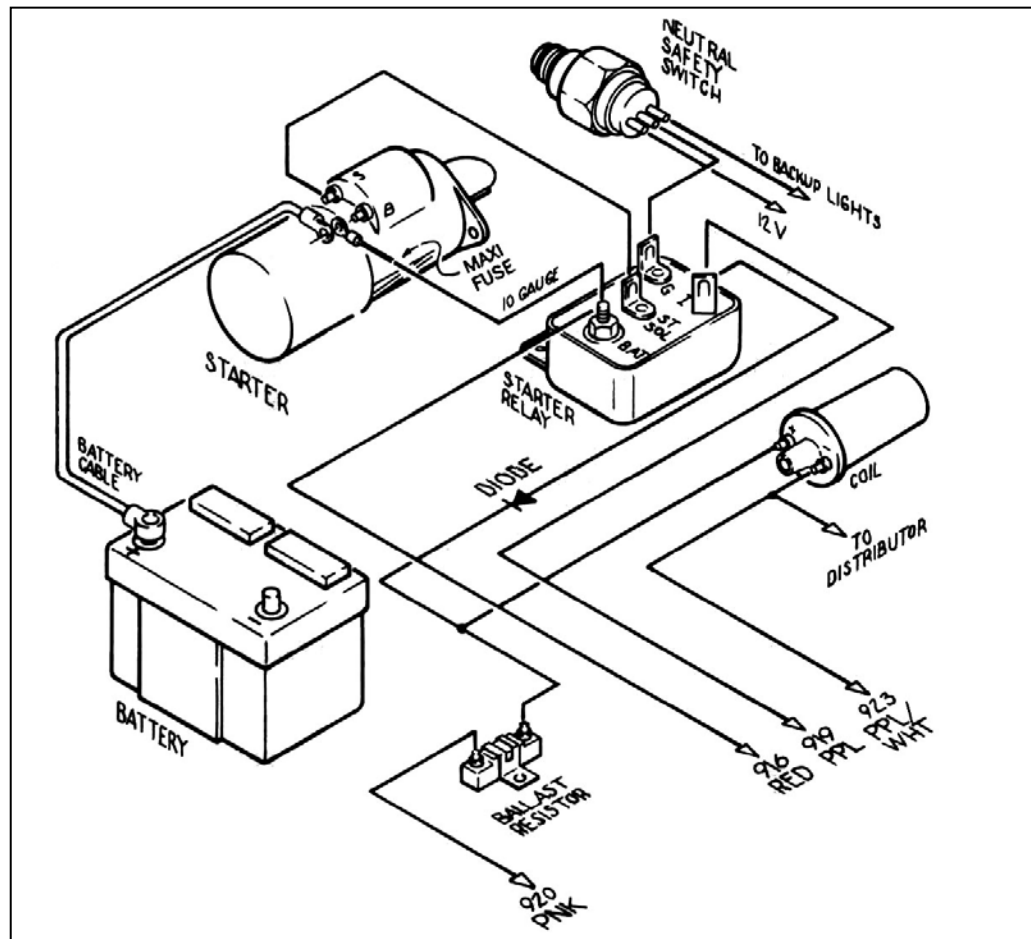

Figure 9-2A Mopar Ignition (Start/Run) System
- 9.2.8** Connect a 14-gauge wire from the Starter Relay Ignition (I) terminal to the ignition coil side of the Ballast Resistor. This wire serves as a ballast resistor BYPASS during engine starting. You must add a diode (8 amp min., 100 PIV) to this wire as shown in **Figure 9-2A**. If you are not using a ballast resistor, do not connect this wire.